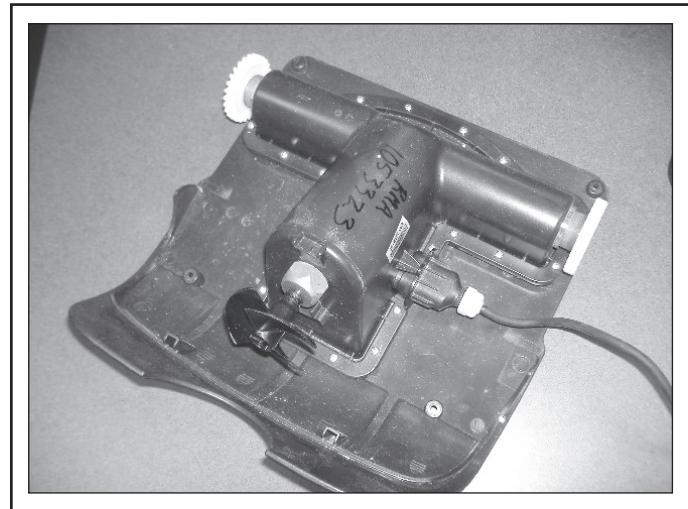

Figure 11. Testing the Motor Block
7. Once secured, start the diagnostic test (see Figure 11).